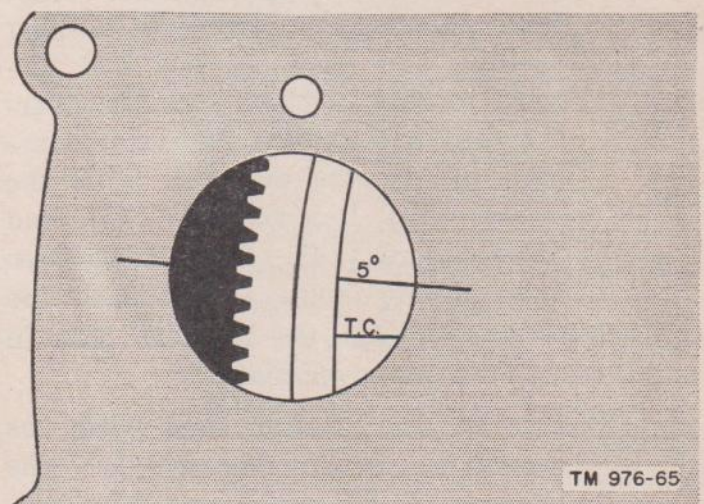

Figure 65. Flywheel timing marks.
- (1) Remove the No. 1 spark plug. Rotate the crankshaft until the No. 1 piston is coming up on the compression stroke and until the 5° mark on the flywheel is in the center of the timing hole as shown in figure 65.
- (2) Install the igniter assembly in the cylinder block. (Always install the oil pump after the igniter assembly has been installed.) Use the rotor on the distributor shaft to turn the shaft until the rotor points toward the No. 1 spark plug terminal tower position with the contact points just breaking.
- (3) Correctly mesh the oil pump gear with the driving gear on the camshaft to allow engagement of the offset drive tongue on the distributor shaft with the pump shaft driving slot. Assembly can be made in only one position as the slot and drive tongue are machined off-center. Always check the position of the rotor and contact points ((3) above) after this operation.
- (4) Install the spark plugs. Connect the ignition cables. Place them in the cap terminal towers in the firing order sequence of 1-3-4-2.